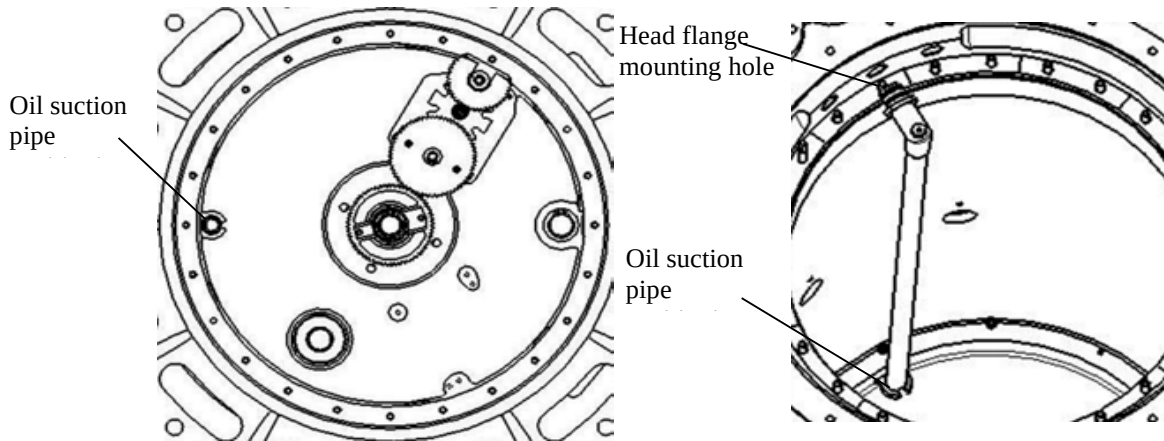

Figure 30 Install the pipe into the positioning hole Figure 31 Insert the pipe into the mounting hole
- 3) Install the oil suction pipe into the positioning hole at the bottom of the oil compartment (Figure 30). Then, insert the pipe into the tap-changer head flange mounting hole (Figure 31).